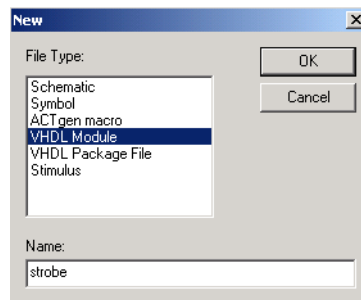

Figure 4-1. New Dialog Box
2. **From the File menu, click New.** This displays the New dialog box, as shown in Figure 4-1.